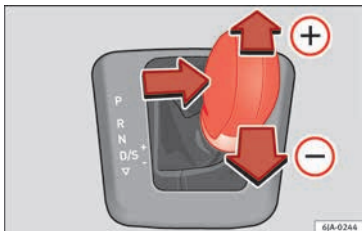

Fig. 179 Selector lever: Tiptronic.
- Push the selector lever gently forwards ➕ » Fig. 179.
- Push the selector lever gently backwards ➖ » Fig. 179.